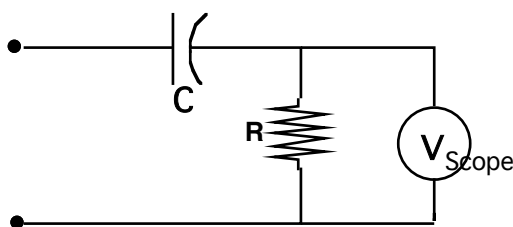

Fig. 1 DC Decoupler
These problems can be circumvented mostly by connecting a so-called **decoupling capacitor** in series with the input. The input now looks at an RC series circuit, shown in Fig1. with the scope seeing only the voltage across R . If there is a DC component in the signal, the decoupling capacitor quickly charges up to that DC value. In other words the capacitor is a simple open circuit for the DC components and has finite impedance for AC components. So, the DC component of the source contributes no current and the voltage at R depends only on the AC signal.
- 4.6** Consider the R-C circuit in Fig.1 without the presence of the scope. Let $R = 1K\Omega$ and $C = 1mF$. Also, let the initial voltage across the capacitor be zero. The input to the circuit is a pulse voltage with the parameters as given below. Use PSPICE or MULTISIM transient analysis to simulate the voltage across the resistor from 0 to 20 sec with an increment of 1 sec.